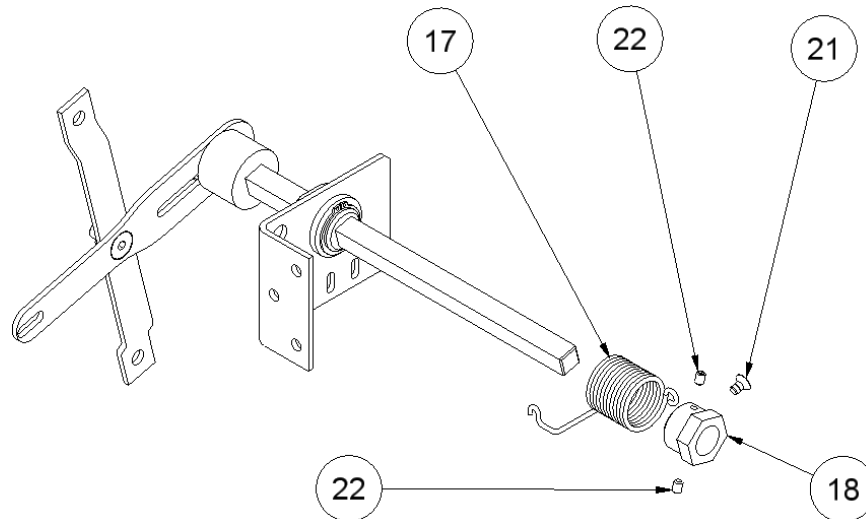

Figure .6
- 6. TENSOR AND SPRING PLACING:** The tensor (**19**) and the spring (**17**) must be assembled at the left side of the driving bar, and if it is possible it will be assembled at the side of the governor linkage (**7**), First of all the spring and the tensor must be inserted in the arm of that side. The spring is fixed to the tensor through a M6x10 DIN 7991 8.8 (**20**) and the other end of the spring must be fixed to one of the grooves placed on the mounting plate. Finally, the tensor is fixed to the driving bar arm through two M6x8 DIN913-45 H (**18**). The tensor must be prestressed in order to allow the spring to keep the handle in the lower position. – Fig. 6 –.